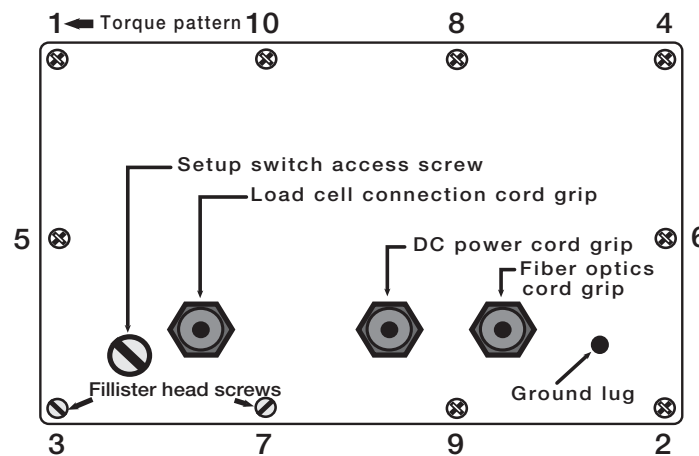

Figure 2-8. 320IS Plus Enclosure Backplate
2. Reinstall the backplate screws. Use the torque pattern shown in Figure 2-8 to prevent distorting the backplate gasket. Torque screws to 15 in-lb (1.7 N-m).